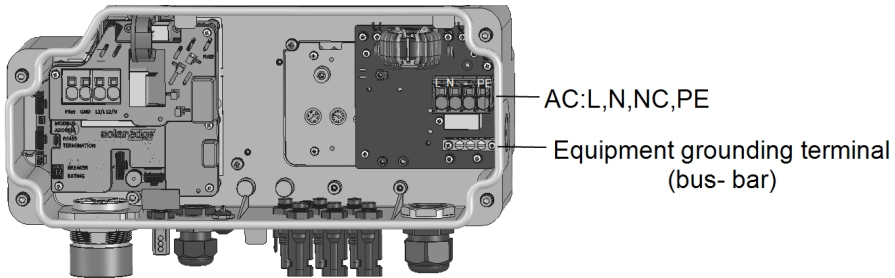

Figure 12: Inside the Connection Unit
4. Insert the grounding cable to the equipment grounding bus-bar (see *Figure 12*).